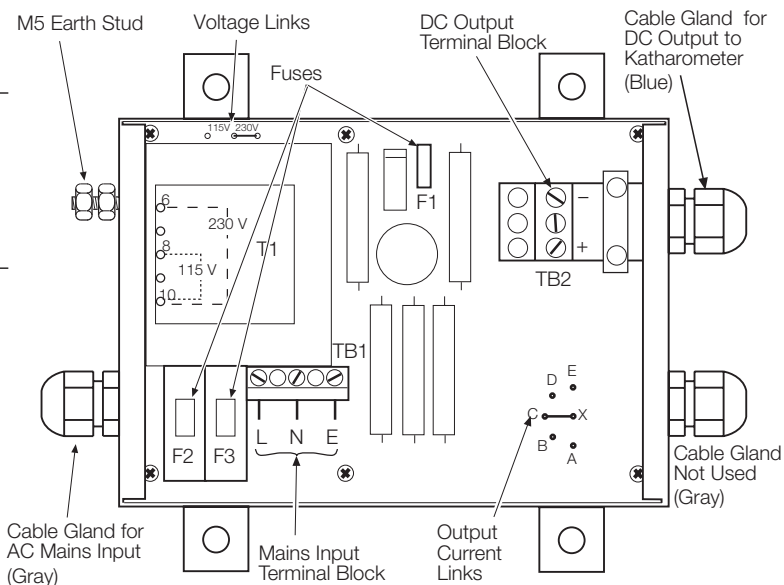

Fig. 1.1 Location of Internal Component
1.2 Description – Fig. 1.1
A printed circuit board (PCB) assembly (see **Fig. 1.1**) contains the circuit components. The supply voltage input is connected to terminal block (TB1) located on the PCB, adjacent to the fuses F2 and F3. The intrinsically safe constant current output terminal block (TB2) is located on the gland assembly at the opposite end of the assembly. The PCB is mounted on a steel chassis and secured by six screws. The cover is perforated to allow ventilation for cooling.